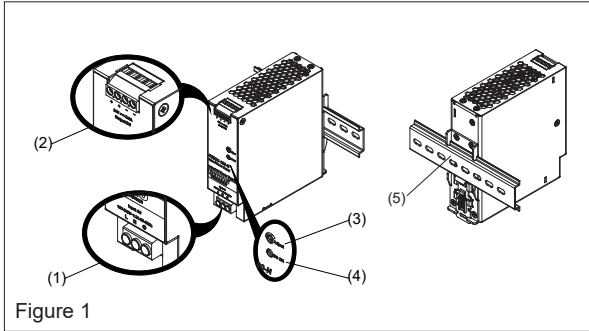
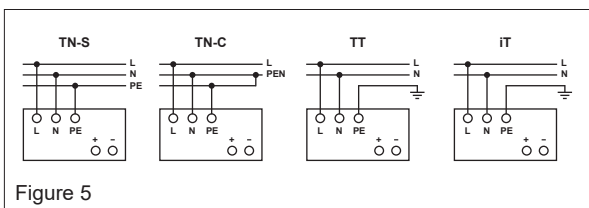

Figure 1
Figure 5
## 2. Device description (Fig. 1)
### 5.1. Input connection (Fig. 1, Fig. 5)
Use L, N and PE connections of input terminal connector (see Fig. 1 (1)) to establish the 100-240 VAC connection.
### 5.2. Output Connection (Fig. 1 (2))
Use the "+" and "-" screw connections to establish the 24 VDC connection. The output provides 24 VDC. The output voltage can be adjusted from 22 to 24 VDC on the potentiometer. The green LED DC OK displays correct function of the output (Fig. 1 (4)). The device has a short circuit and overload protection and an over voltage protection limited to 35 VDC.